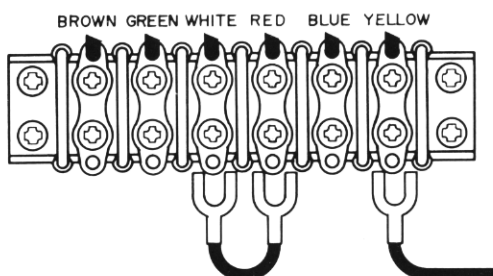

Figure 2 Voltage Conversion Chart
- (3) Change the jumper wires as illustrated in Fig. 2 for the required AC voltage and replace the fuse as instructed.